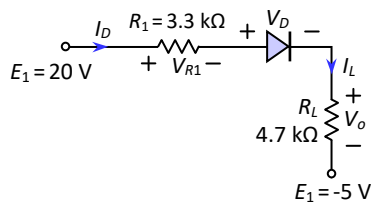

Fig.3-96: Diode circuit for Exercise 3
3. For the circuit of Fig.3-96, calculate the values of I_L , I_{R1} , V_o , and the exact diode voltage drop, V_D . Assume the bulk resistance of the diode $r_s = 10\ \Omega$, $I_s = 10^{-9}\text{ mA}$, and $T = 27^\circ\text{C} = 300\text{ K}$.